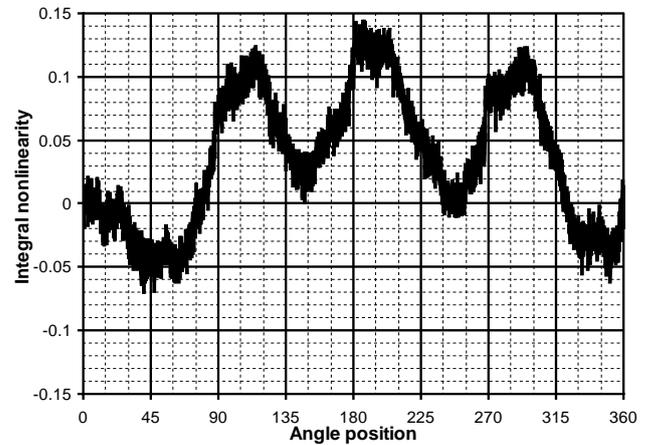

Fig. 16: Typical integral nonlinearity
**Integral nonlinearity** is the total position error of the AM8192B output. Integral nonlinearity includes all position errors but does not include the quantization error. Integral nonlinearity is minimized during production to better than  $\pm 0.2^\circ$ . Fig. 16 shows a typical integral nonlinearity plot of the AM8192B with 12 bit resolution, a perfectly aligned magnet, 22 nF filtering and default parameters. Integral nonlinearity can increase if the default parameters are changed. The effects of different parameters to integral nonlinearity are described separately.